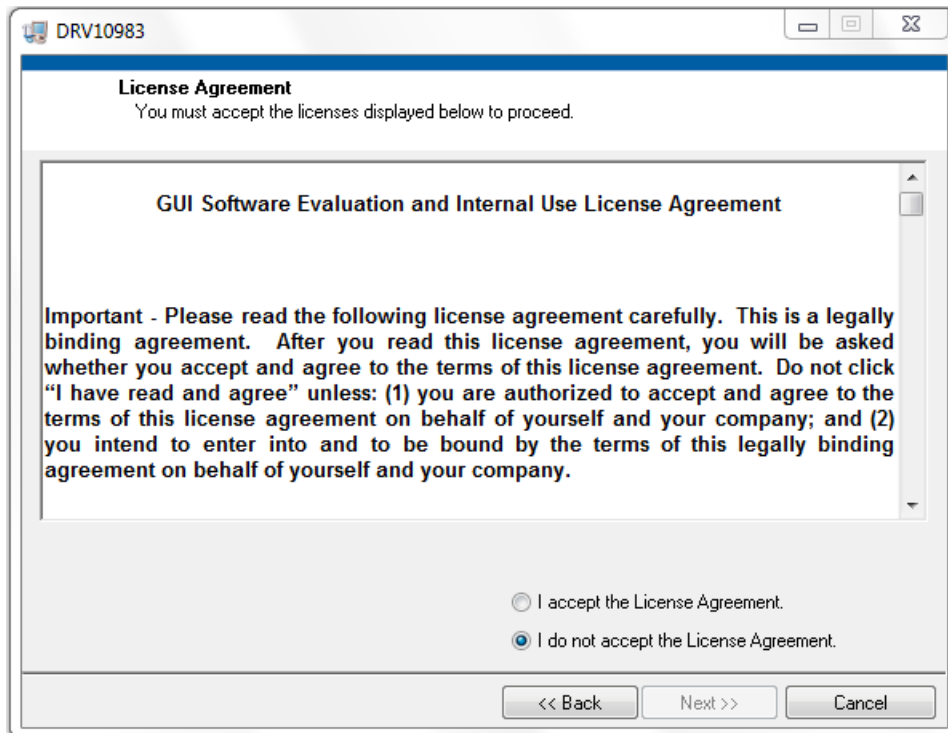

Figure 13. GUI License Agreement
- The *License Agreement* screen appears as shown in Figure 13. Read through the agreement carefully and enable the “I Accept the License Agreement” radio button, then press the *Next*» button.